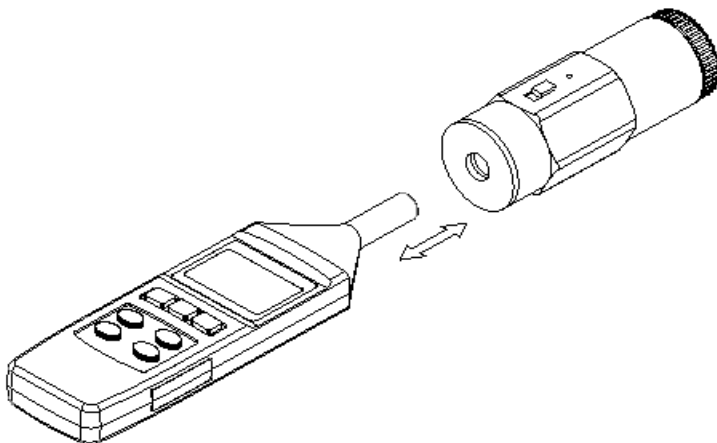

Fig. 2
- 2) Insert the microphone of calibrated " SOUND LEVEL METER " carefully all the way into the coupler section of the Sound Calibrator. (Refer to Fig. 2).
- 5) Adjust the calibration VR (knob) of the calibrated " SOUND LEVEL METER " until that the display reach to 94.0 dB (114 dB) exactly or the meter pointer points to the " CAL " mark. (Refer Fig. 2)